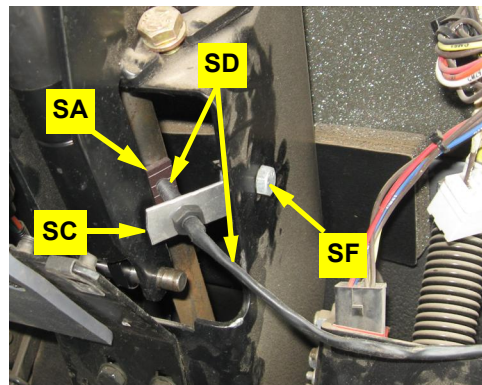

Figure 1d: Installed magnets, sensor bracket and sensor
- d. Using the two-part epoxy **SB**, attach magnets **SA** to the steering shaft at 180° apart. Align the center of each magnet with the center of the drilled hole (Figure 1d).
- e. Mount **SD** in the pre-drilled hole of **SC** then, using hardware **SF** through the new hole in **SC**, attach the sensor and sensor bracket assembly (**SC/SD**) to the steering column. Bending **SC** as required, align the sensor with the magnets and adjust the sensor tip to 1/8" to 1/4" from the magnets (Figure 1d). Secure **SD**'s cable with ties **SE**.